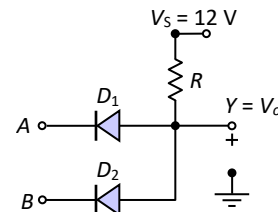

Fig.3-102: Circuit diagram for Exercise 10
10. Repeat problem no. 9 for the logic gate of Fig.3-102.